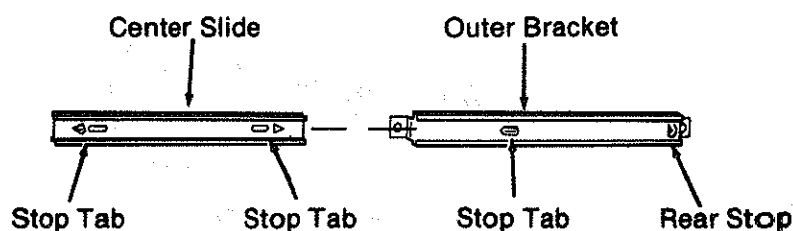

Fig. 84 - Stop Tabs
3. If any of the *drawers* do come all the way out, use a screwdriver to bend out the stop tabs on the *slide brackets*. (Figure 84)